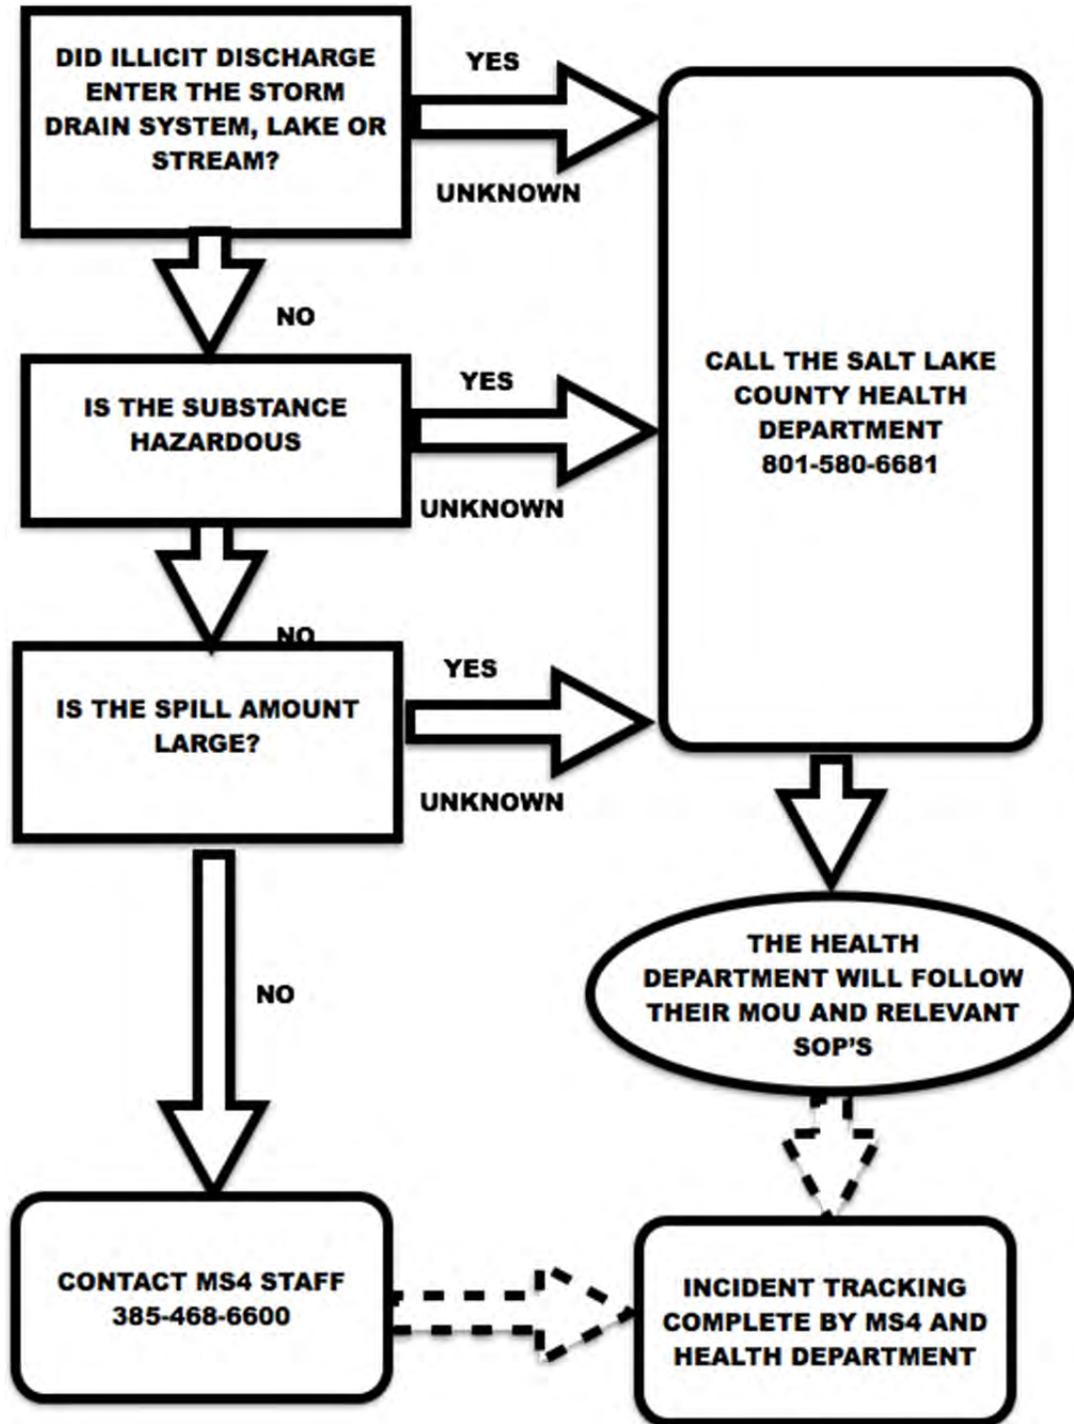

FIGURE 1 – INCIDENT RESPONSE FLOWCHART
3. Now, follow the Incident Response Flow chart (see Figure 1 on following page) as follows: